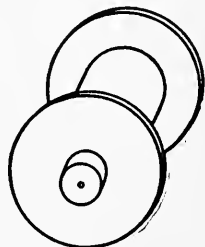
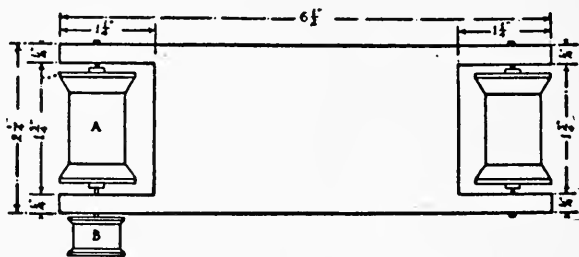

FIG. 359. — Spool Wheels.
FIG. 377.—Top View of Wooden Frame.
inch board twelve inches long by two and one-quarter inches wide, and, after rounding the ends as shown in the drawing, cut a mortise at *A* and *B* two and three-eighths inches from either end. Procure two one and one-half inch spools for wheels, and drive a wooden peg through the hole in each, cutting off the ends so they project a little beyond the hole, as shown in Fig. 359. Then bore four holes in the edges of the truck-bed with a gimlet at *C*, *D*, *E*, and *F* (see drawing), and, after setting the spools in mortises *A* and *B*, pivot them in place with small finishing nails driven into the wooden pegs. These nails should fit loosely in the gimlet holes. In order to drive them into the exact centres of the spools, it is best to locate
**The Frame** of the automobile, as that is about the simplest way, and makes a light, easy-running vehicle. The bed will be cut of a different pattern, however, as will be seen in Fig. 377. Lay out the piece to the dimensions shown upon this drawing, and then cut it out, making a mortise in each end for the wheels to fit in. The spool wheels should be mounted in the
same manner as those of the railway cars, for which see Fig. 359, Chapter XXV, and the directions upon page 335. One end of spool *A* should be pivoted with a longer finishing nail than those used for the other pivots, so that when driven in place about half an inch will project beyond the frame. A small silk spool should be fastened upon this for a belt-wheel (see *B*, Fig. 377). The hole in one of these spools is about three-sixteenths of an inch in diameter, so, in order to make it fit tightly upon the nail, it is necessary to fill in around the nail!
broken out. A small silk spool, such as *B* (Fig. 377), should be fastened upon the small pivot which originally operated the clock's hands, for a belt-wheel. Lay the works upon a table with the face-side down, and, after centring the hole of the spool upon the pivot, fasten it in place with sealing-wax in the same manner as you attached spool *B*.